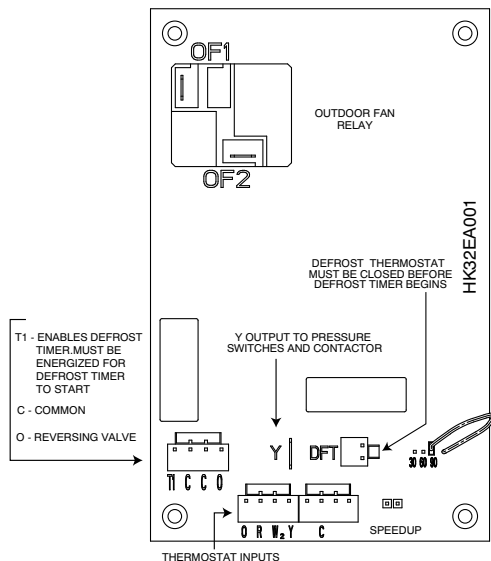

Fig. 9 - Defrost Control
2. Disconnect outdoor fan motor lead from OF2 on control board, see Fig. 9. Tape lead to prevent grounding.